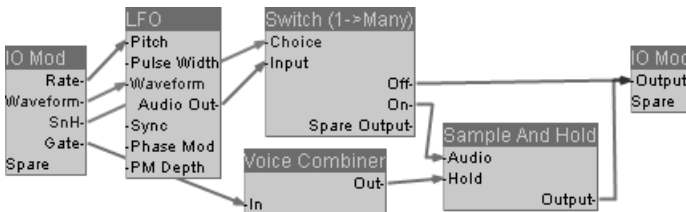

Figure 3.44: A monophonic S&H LFO
- ❖ **Combining an LFO and a Sample and Hold module can conjure interesting effects. Try this on for size: Insert a Sample and Hold module after the LFO and connect the Gate signal to the S&H module’s Hold plug. Then it retriggers only when you hit a note. The LFO puts out a polyphonic signal. If you prefer a monophonic signal, use a Voice Combiner module to convert the Gate signal. Use an S&H module on a noise waveform to trigger random constant voltages in response to every note-on message. Figure 3.44 pictures a monophonic S&H LFO structure.**